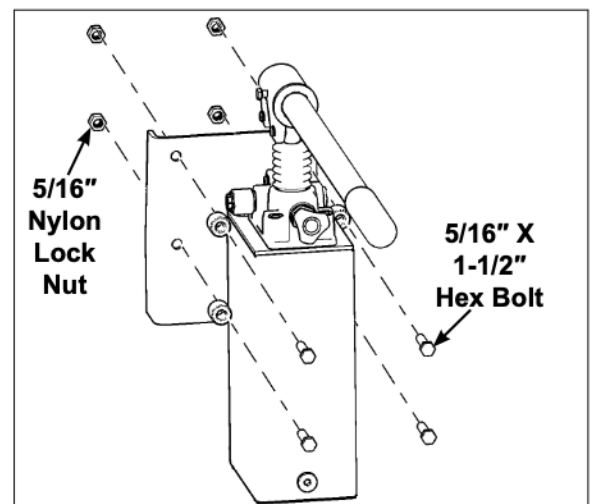

Figure 5 - Remove hex bolts and nylon lock nuts to replace hydraulic hand pump.
2. Use a 1/2" wrench to remove all four 5/16" nylon lock nuts and 5/16" x 1-1/2" Gr. 5 hex bolts securing hydraulic hand pump to dump trailer frame (see **Figure 5**). Retain hardware for new part installation.